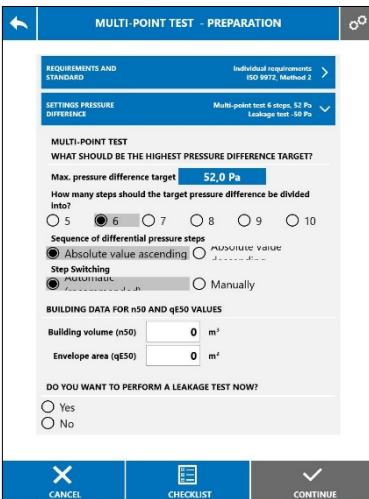

Fig. 48: Preparation of the multi-point test
- Tap CHECKLIST in the view MULTI-POINT TEST - PREPARATION (Fig. 48) to display the Building preparation checklist (that requires that you have previously selected the measurement method, because the checklist is determined by the measurement method).